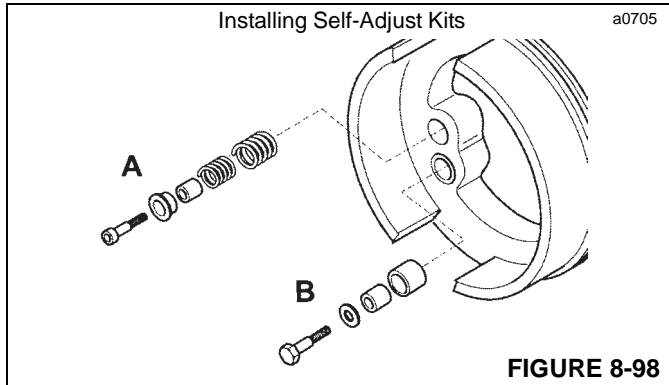

FIGURE 8-98
4. Install the self-adjust kit components in the correct sequence (Figure 8-98).